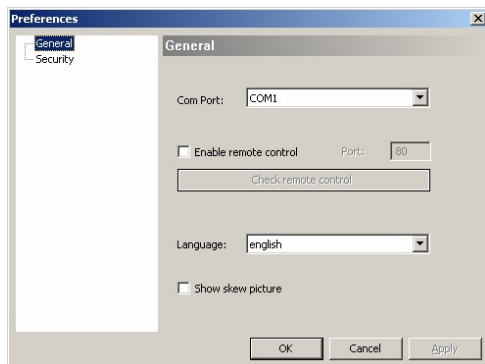
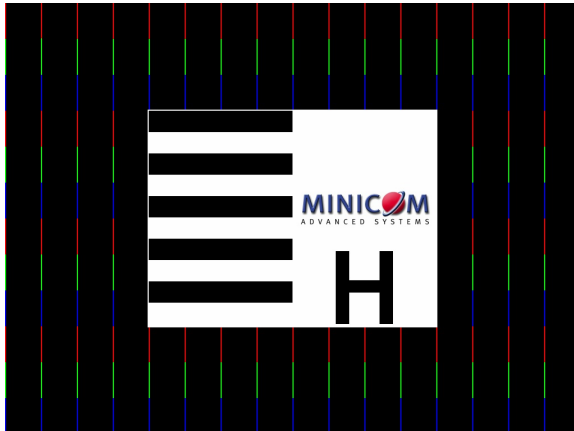

Figure 16 Preferences window
Figure 23 Test card
Choose Tools/Options. The Preferences window appears see Figure 16. In the Com port field select the Com port to which the Serial Download cable is connected to.
1. Open the test card located on our website www.minicom.com/support/skew.png or www.minicom.com/support/skew.gif or, on the supplied CD. Or open the Service Utility and choose Tools/Options, the Preferences window appears, see Figure 16 above. Check Show Skew Picture. When you click the Tuning tab the test card appears in the background. See Figure 23. This image will help you get the best screen image. It can also help to correct skew.